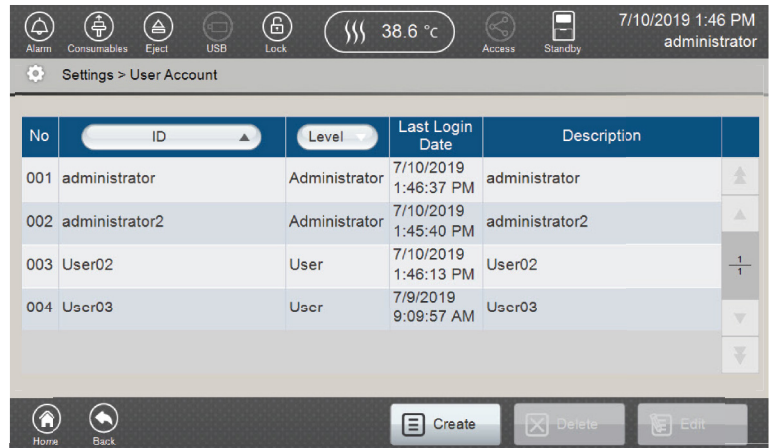

Figure 165. 'User Account' screen.
1. Select **User Account** in the 'Settings' screen (Figure 158) to open the 'User Account' screen (Figure 165).